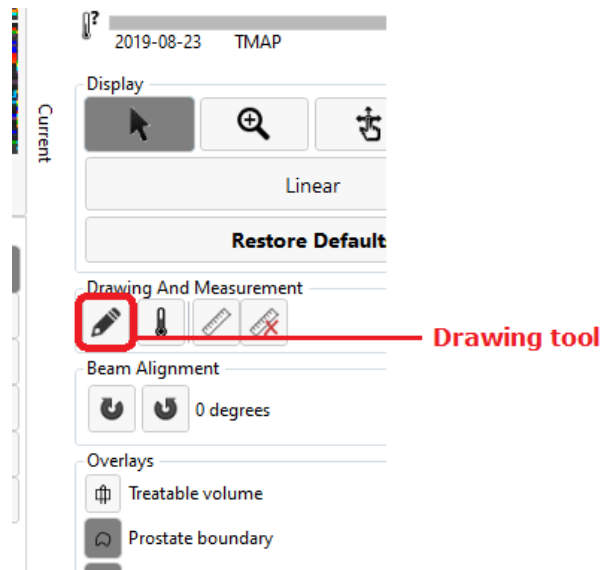

Figure 53: Prostate-boundary 'Drawing' tool on Delivery screen
2. Once delivery is paused, expand the right panel in the Delivery workspace to select the prostate boundary drawing tool (*Figure 53*).